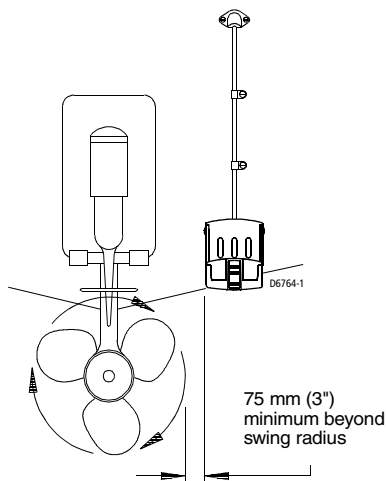

Figure 2-6: Mounting Location on Single Drive Boat
- **Single drive boat**—Mount the transducer on the starboard side at least 75 mm (3") beyond the swing radius of the propeller (see *Figure 2-6*).